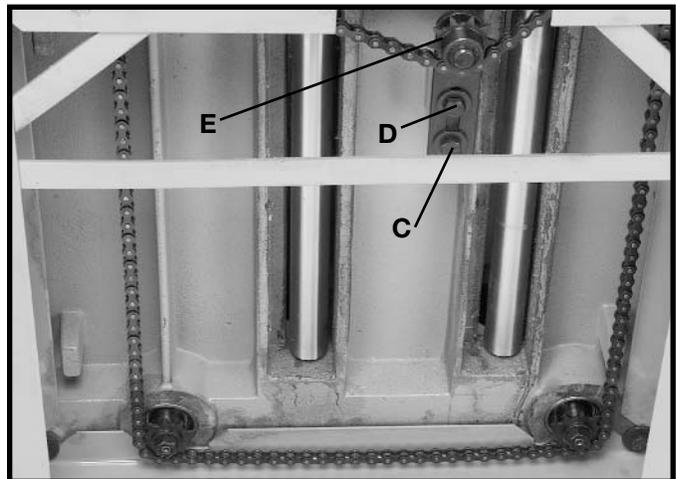
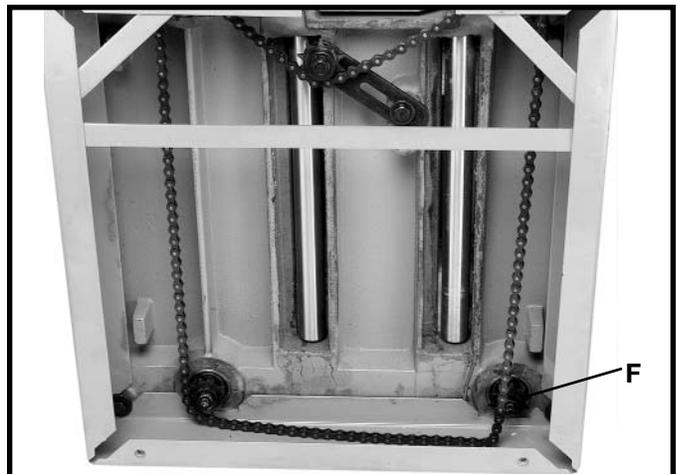

Fig. 51
Fig. 52
4. If head casting is not parallel to table, tilt planer on its side as shown in Fig. 51. Remove bolt (C) and loosen bolt (D) Fig. 51, which will allow you to move the idler sprocket assembly (E) far enough to release tension on chain as shown in Fig. 52. Remove chain from sprocket on end of head casting that must be adjusted. In this case chain has been removed from sprocket (F).
5. Turn sprocket (F) Fig. 52, by hand to bring that corner into adjustment with the other three corners. **IMPORTANT: THIS ADJUSTMENT IS VERY SENSITIVE AND IT SHOULD NOT BE NECESSARY TO TURN THE SPROCKET MORE THAN ONE OR TWO TEETH.** Turning sprocket (F) clockwise will decrease the distance between the table and head casting. Counterclockwise will increase the distance.
6. Replace chain being careful not to disturb the position of the sprockets and replace idler sprocket assembly (E) Fig. 51.